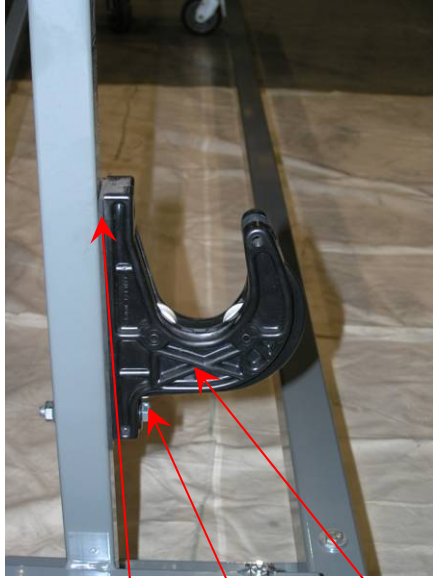

Fig: 11.1
- 11.1 Line up the bottom bolt holes of the Rubber Gasket and the Roller Bracket with the End Frame hole and insert one (1) 3/8" x 3" bolt (**A**) and 3/8" washer (**K**) in the lower bolt position on the bracket and screw as shown in **Fig: 11.1. DO NOT INSTALL** the Safety Bolt (**O**) the upper section of the roller bracket until the Cover Rollers are placed on the bracket (**Fig:11.2**).